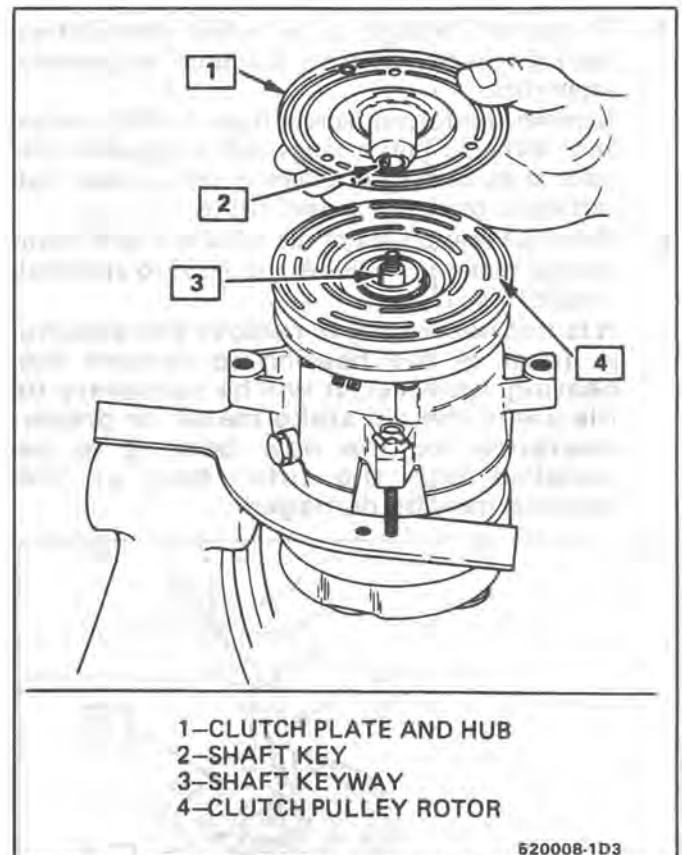

Fig. 8 Shaft Key, Clutch Plate/Hub Installation
1. Install the shaft key into the hub key groove (Fig. 8). Allow the key to project approximately 3.2mm (1/8") out of the keyway. The shaft key is